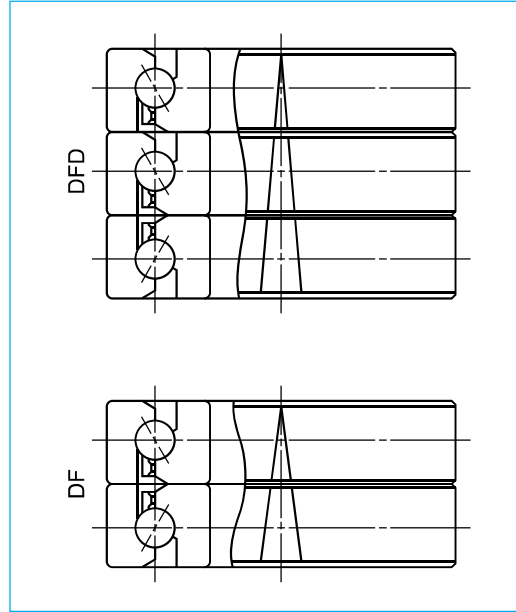

Fig. 2 Examples of combination and "V" mark
① Bearing combination
- Figure 2 shows examples of combinations. There is "V" mark on the outside surface of the bearing to avoid misarrangement. A complete letter "V" should be formed when all bearings align correctly to form a set.